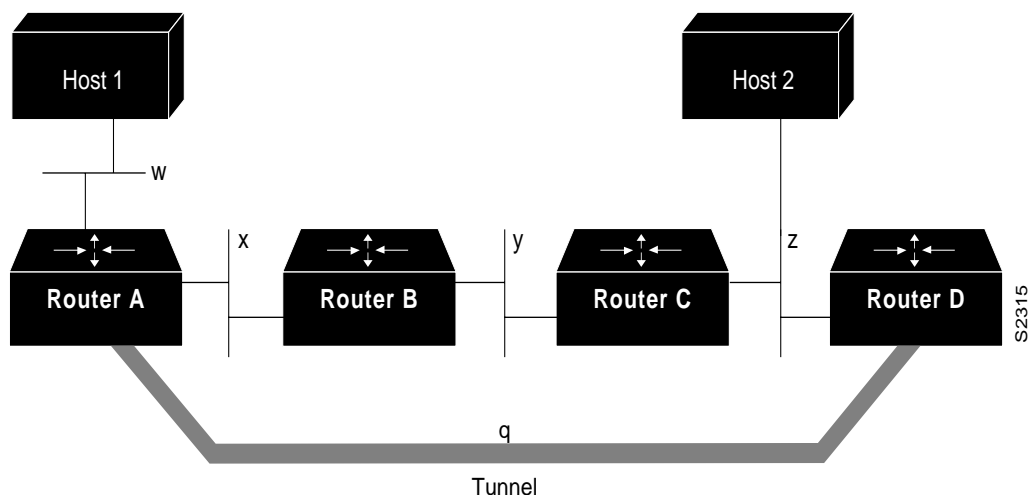

Figure 6-4 Tunnel Precautions: Hop Counts
- Routing protocols that make their decisions based solely on hop count will often prefer a tunnel over a multipoint real link. A tunnel might appear to be a one-hop, point-to-point link and have the lowest-cost path, but may actually cost more. For example, in the topology shown in Figure 6-4, packets from Host 1 will travel across networks w, q, and z to get to Host 2 instead of taking the path w, x, y, z because it “appears” shorter.